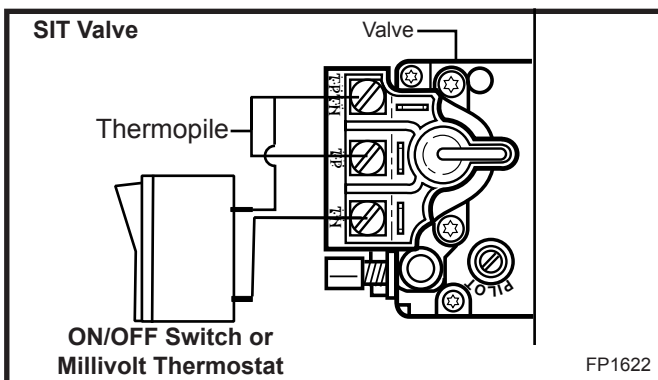

Fig. 8 Install wiring to switch before connecting to valve.
3. Attach wires to valve terminals. (Fig. 8)